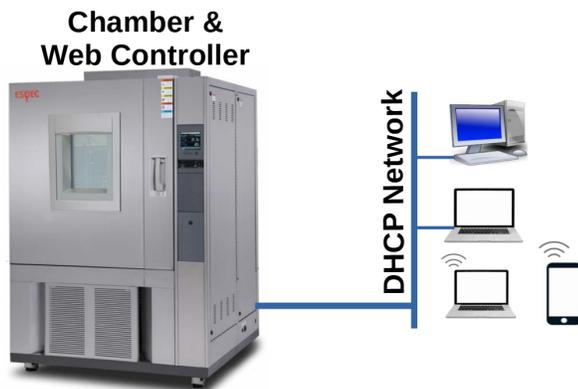

Figure 1.8: Network connection on a DHCP setup
3. Verify that the PC (or a handheld device) is also on the same network (see Figure 1.8).